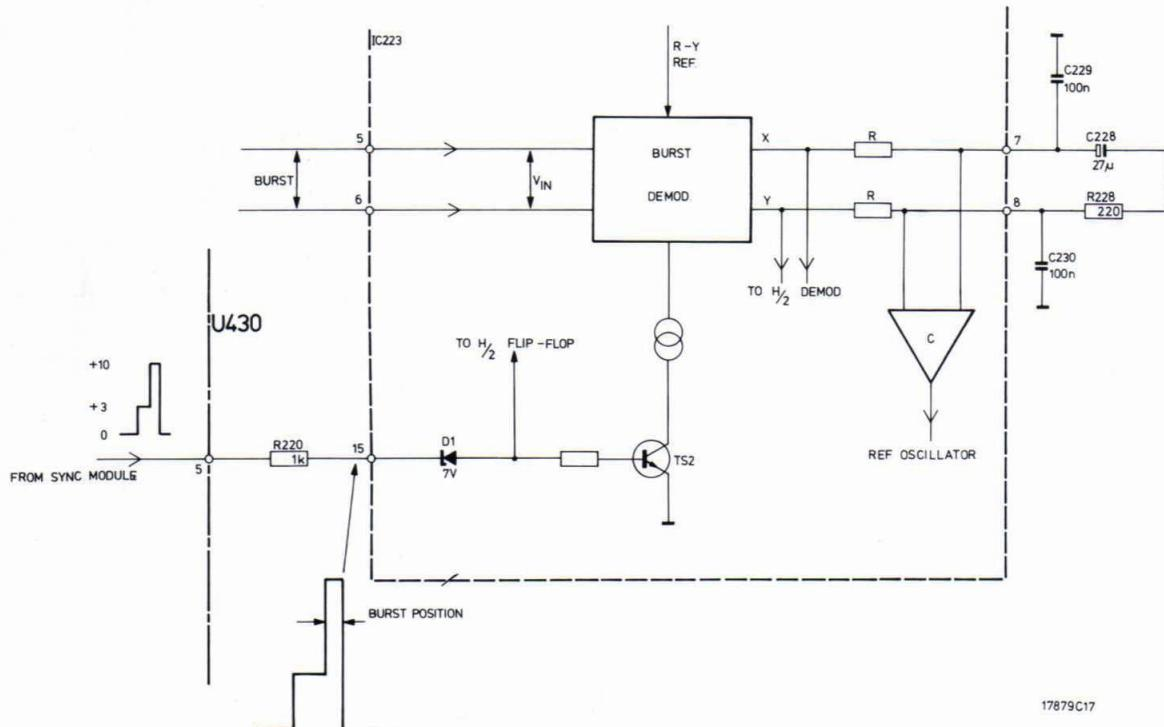

Fig. V-10
7. De burst-demodulator (Fig. V-10)